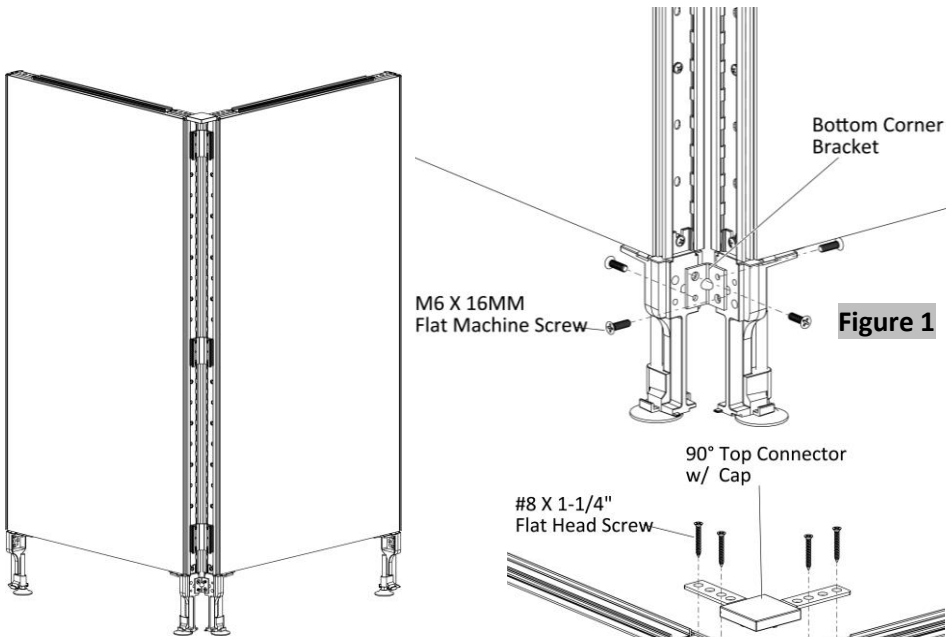

Figure 1
2. Securely fasten the bottom corner bracket into the panel legs with four M6 X 16MM Flat Machine Screws, (Figure 1).